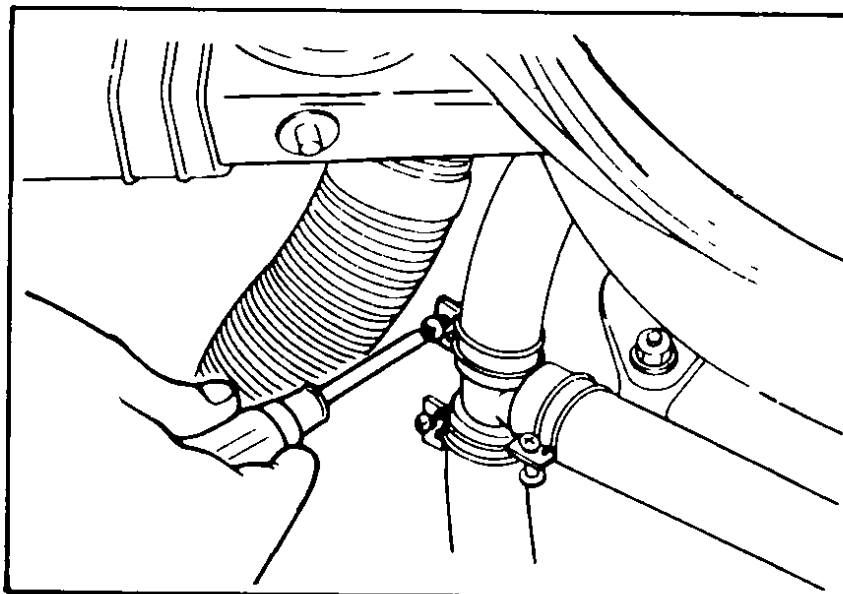

Fig 40 Disconnect air hose from air check valve
- 2 Remove the air hose between the 3-way connector and air check valve, if equipped, Fig 40 Plug